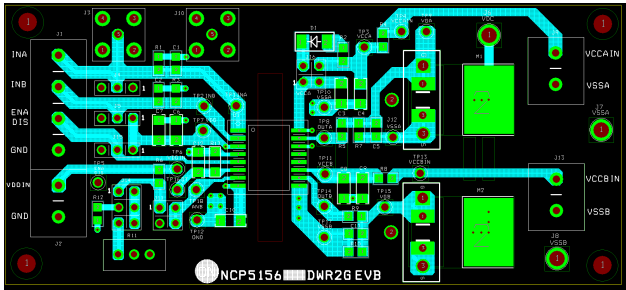

**Figure 66. Recommended Layer Stack**
- To ensure isolation performance between the primary and secondary side, any PCB traces or copper should be not placed under the driver device as shown in Figure 66. A PCB cutout is recommended to avoid contamination that may impair the isolation performance of NCP51561.